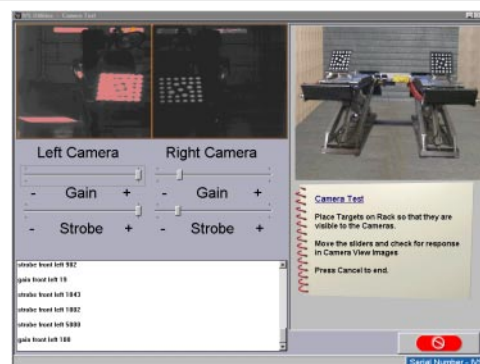

Figure 3-70
7. Beginning with the left camera slide both the “GAIN” and the “STROBE” slider bars all the way to the right. The image of the target for the left side should respond to the change by “BLOOMING”. (Figure 3-70)